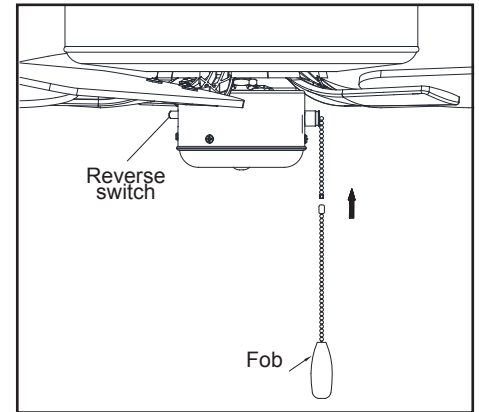

Figure 20
5. Install the pull chain extension chain and fob (Figure 20).
The fan shipped from the factory with the reverse switch positioned to circulate air downward. If airflow is desired in the opposite direction, turn your fan off and wait for the blades to stop turning, then slide the reverse switch (located on the switch housing, refer to figure 20) to opposite position, and turn fan on again. The fan blades will turn in the opposite direction and reverse airflow.